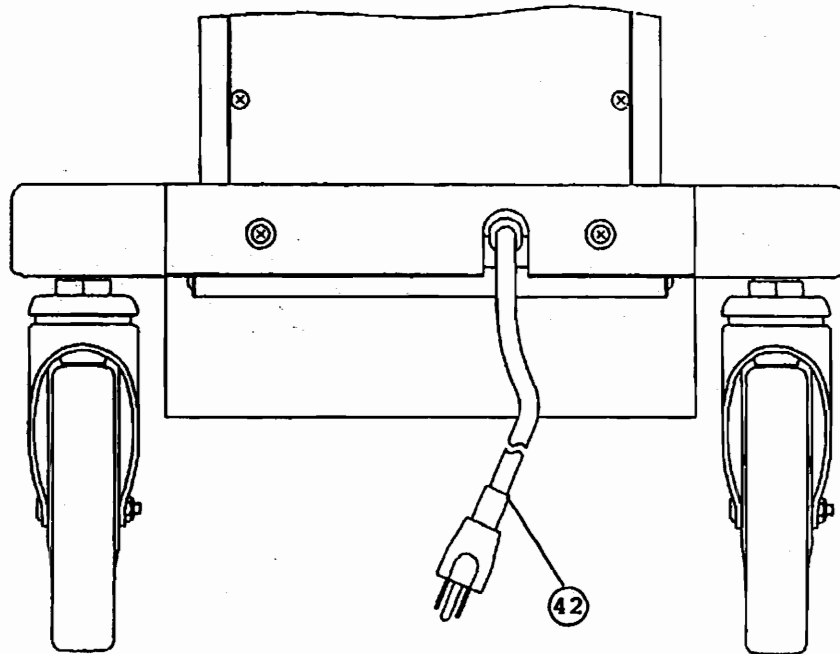

Fig. 3-5-5 Cart Rear Panel
2. Before connecting or disconnecting a probe with respect to this connector, be sure to turn "OFF" the power switch ① or select another connector by using the probe select switch ④⑩ . If the probe is connected or disconnected with the connector left selected, it will cause the equipment to fail or malfunction.
3.5.5 Cart rear panel see Fig. 3-5-5.
- ④② Power input cord : For use to supply power to the isolating transformer built in the cart. Connect the power terminal of the equipment to a 3-P outlet.